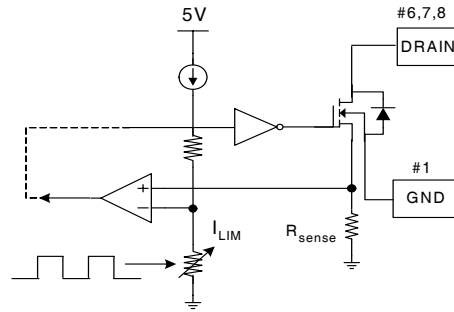

**Figure 6. Over Load Protection (OLP)**
**4.1 Over Load Protection (OLP):** Overload is defined as the load current exceeding a pre-set level due to an unexpected event. In this situation, the protection circuit should be activated in order to protect the SMPS. However, even when the SMPS is operating normally, the Over Load Protection (OLP) circuit can be activated during the load transition. In order to avoid this undesired operation, the OLP circuit is designed to be activated after a specified time to determine whether it is a transient situation or an overload situation. In conjunction with the  $I_{pk}$  current limit pin (if used) the current mode feedback path would limit the current in the Sense FET when the maximum PWM duty cycle is attained. If the output consumes more than this maximum power, the output voltage ( $V_o$ ) decreases below its nominal voltage. This reduces the current through the optocoupler LED, which also reduces the feedback voltage ( $V_{FB}$ ). If  $V_{FB}$  exceeds 3V, the feedback input diode is blocked and the 5 $\mu$ A current source ( $I_{DELAY}$ ) starts to slowly charge  $C_{fb}$  up to  $V_{CC}$ . In this condition,  $V_{FB}$  increases until it reaches 6V, when the switching operation is terminated as shown in Figure 6. The shutdown delay time is the time required to charge  $C_{fb}$  from 3V to 6V with 5 $\mu$ A current source.